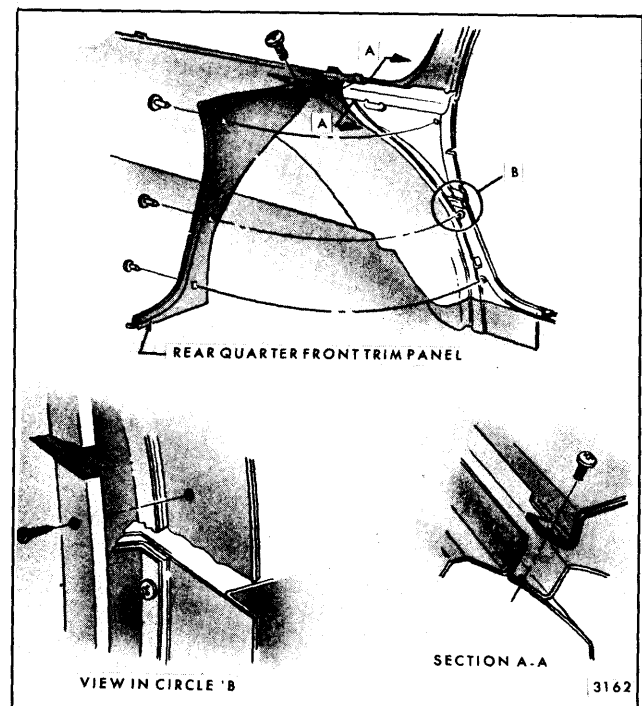

Fig. 14-34—Rear Quarter Front Trim Panel "A" Station Wagon
3. Remove screws securing trim panel as shown in Fig. 14-34 and remove trim panel.